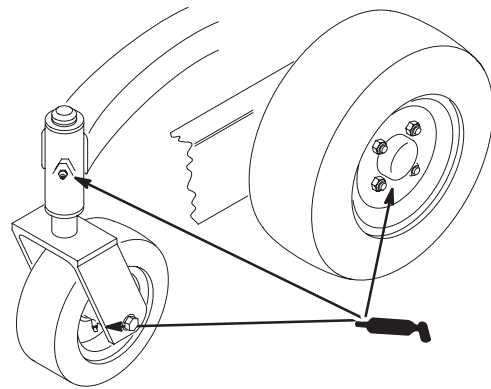

Figure 35
1. Lubricate the front wheel bearings and front spindles (Fig. 35).
4. Remove rear wheel grease cap. Lubricate the rear wheel bearing (Fig. 35).